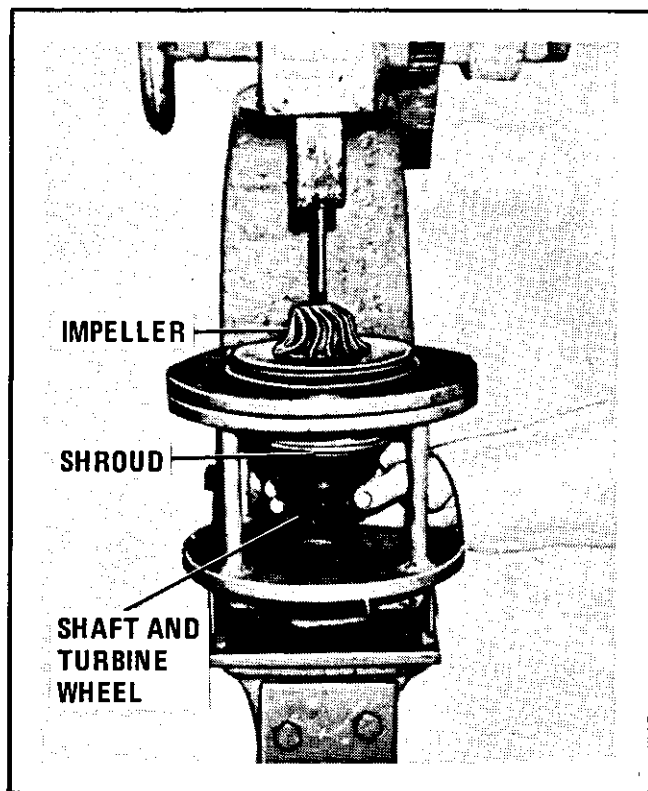

Figure 2-1. Pressing shaft and turbine wheel from turbocharger impeller
g. Attach housing (39) to an adapter and pressing fixture similar to that shown in figure 2-1 following.